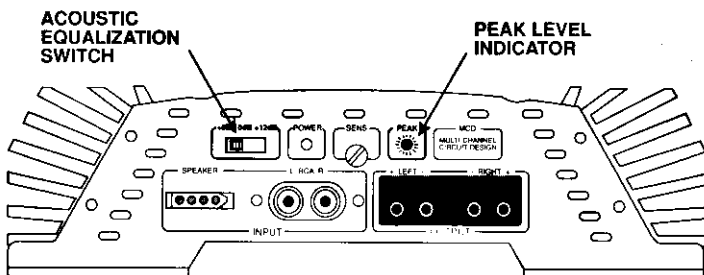

Figure 12. Acoustic Equalization Switch and Peak Level Indicator.
6. Have the person assisting you turn the Input Sensitivity Control until you begin to hear distortion developing. The amplifier has an additional aid to adjusting Input Sensitivity (Figure 12). You will notice a red LED next to the "SENS" adjust screw. This LED is marked "PEAK". When this LED lights up continuously for one second, it means that the Power Amplifier is at full power. When adjusting Input Sensitivity, watch for the red LED to blink as you turn the screwdriver clockwise. When the blinking LED stays on for one full second, the input is adjusted correctly.